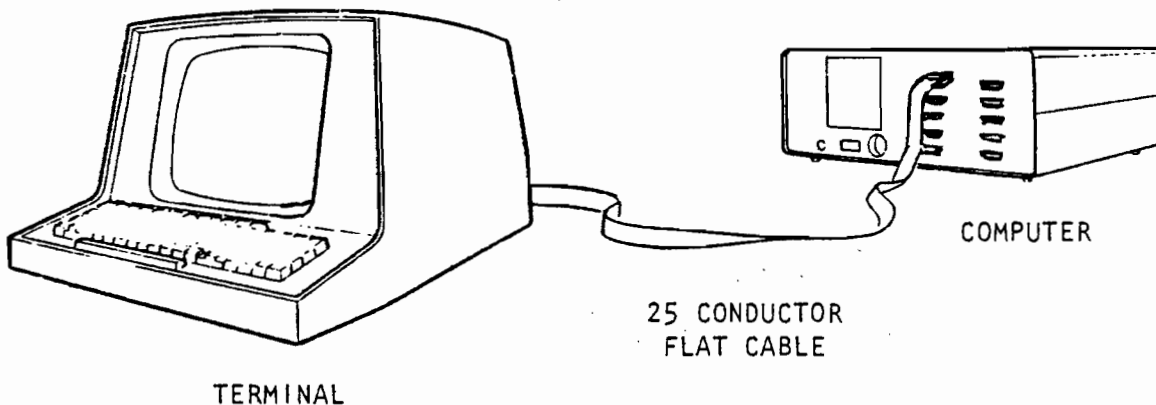

FIGURE 1
8. Check all connections; verify all boards are plugged into the motherboard. Connect the 25-conductor flat cable between the Mindless Terminal and the interface connector on the mainframe as shown in Figure 1. This completes the hardware connection of the Mindless Terminal.